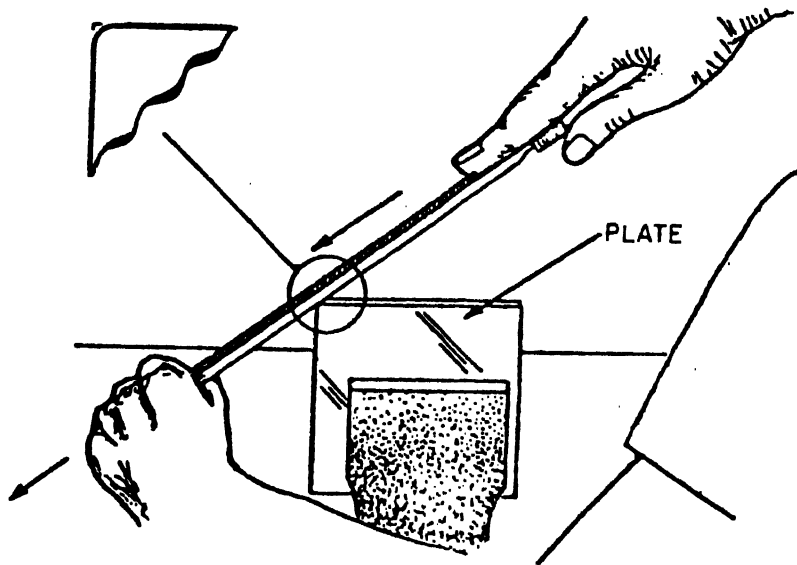

FIGURE 5
*(1) Plate must be repositioned for each corner to be rounded.
*(2) Check corners after filing to ensure removal of sharp edges. See figure 5.